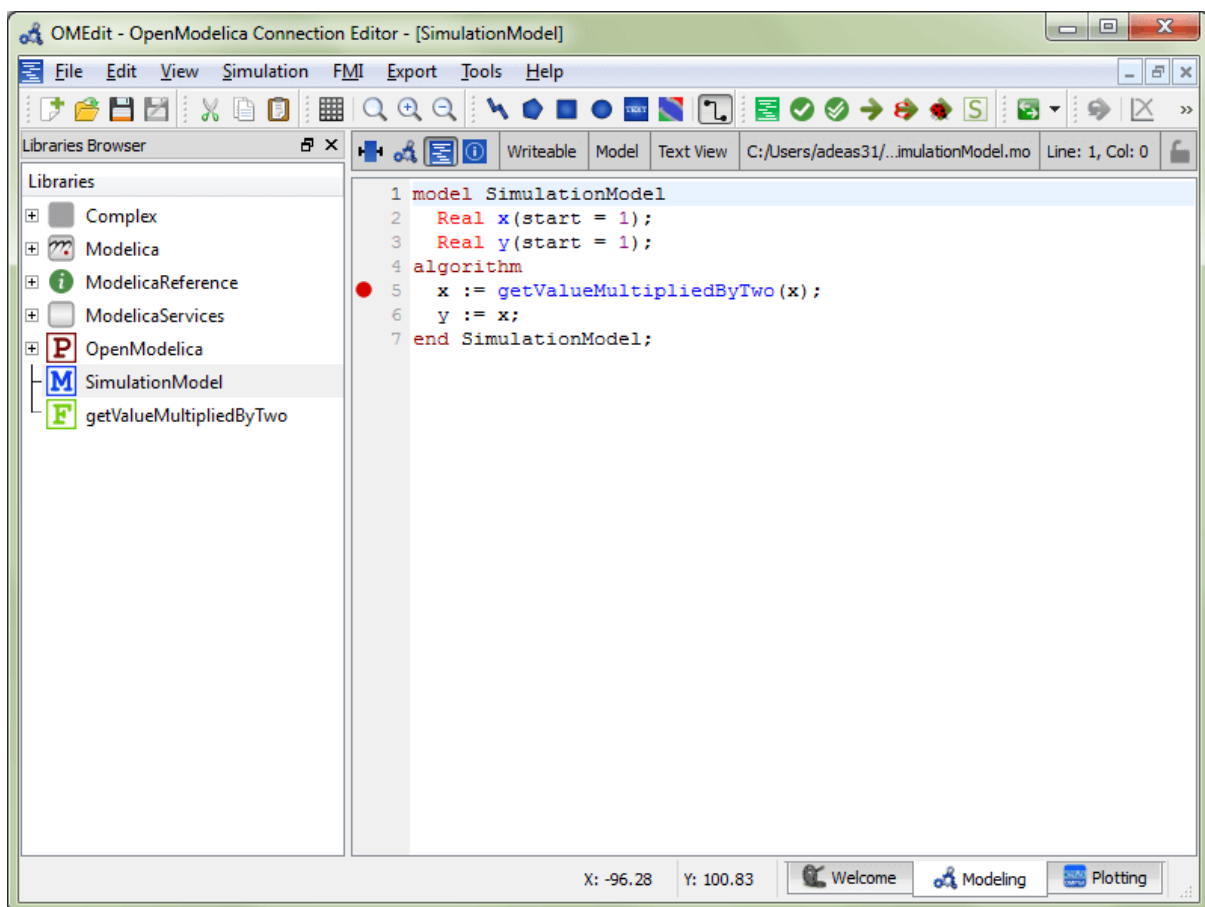

Figure 7.3: Adding breakpoint in Text View.
- Click directly on the line number in Text View, a red circle is created indicating a breakpoint as shown in Figure 7.3.